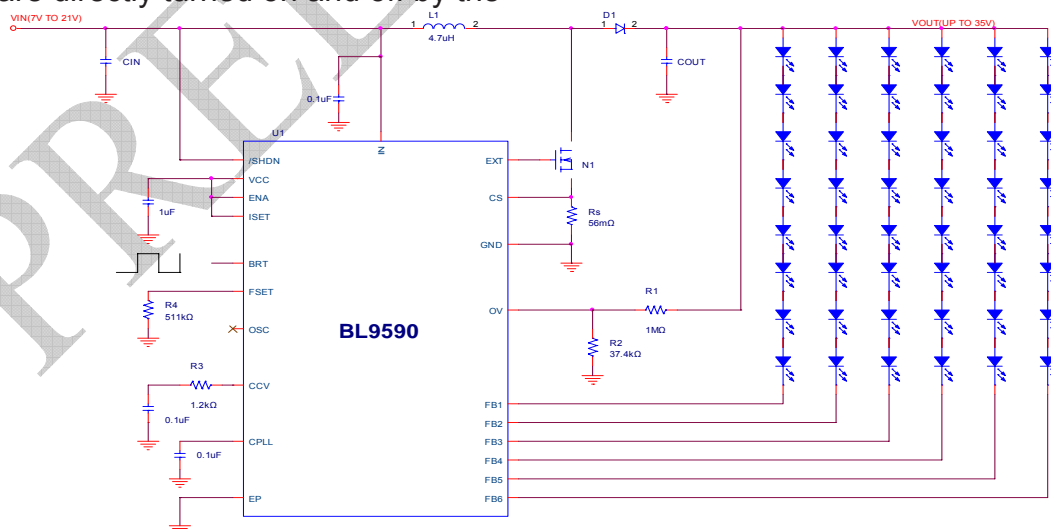

Figure 1. Typical Operating Circuit
To protect the step-up converter when the load is open, or the output voltage becomes excessive for any reason, the BL9590 features a dedicated overvoltage feedback input (OV). The OV pin is connected to the center tap of a resistive voltage-divider from the high voltage output (see Figure 1). When the BL9590 is powered up, if none of the LED strings on FB1–FB6 are connected to the step-up converter output, the step-up converter regulates the output voltage to $V_{OUT} = 1.23V(1 + R1 / R2)$. When V_{OV} exceeds 1.23V, a comparator turns off N1. The step-up converter switch is reenabled after the output voltage drops below the protection threshold.